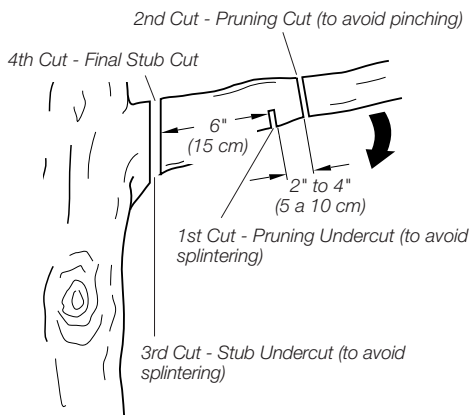

Figure 13 - Cutting A Limb
1. Make first cut six inches from tree trunk on underside of limb. Use top of guide bar to make this cut. Cut 1/3 through diameter of limb (see Figure 13).